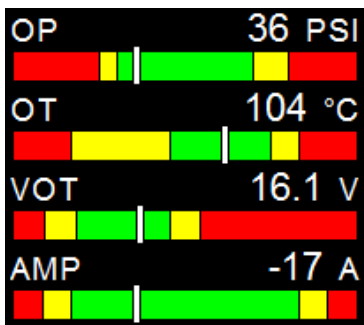

Fig. 18 Oil pressure, oil/water temp, voltage, current indicator
Fig. 18 oil pressure (OP), oil temperature (OT), voltage (VOT) and current (AMP) indicators are respectively shown from top to bottom, and they are displayed in two ways: color tag + cursor and value. The oil pressure display can be turned off, and the unit can be PSI or BAR. The temperature measurement items can be oil temp or water temp, and the unit can be °C or °F. The unit of voltage is V and the unit of current is A. Each range can be modified, and the type of oil pressure, oil / water temp sensor needs to be confirmed or set. See 6.1.8 OIL PRESSURE SETUP, 6.1.9 ANALOG SETUP, 6.1.10 VOLT SETUP and 6.1.11 AMPS SETUP for setting.